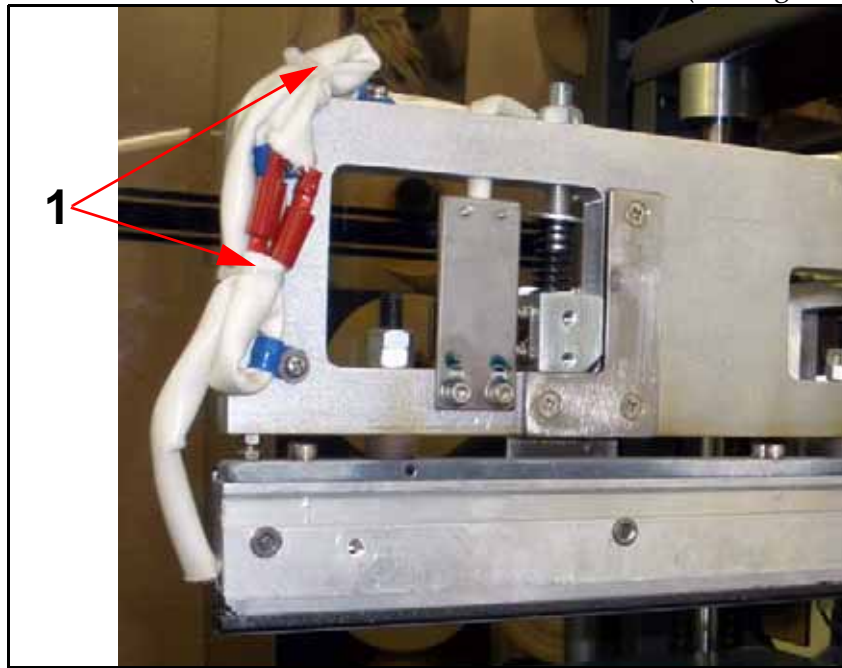

Figure 7-26. Cable Ties
- Secure heater element wires with cable ties (1 in Figure 7-26).